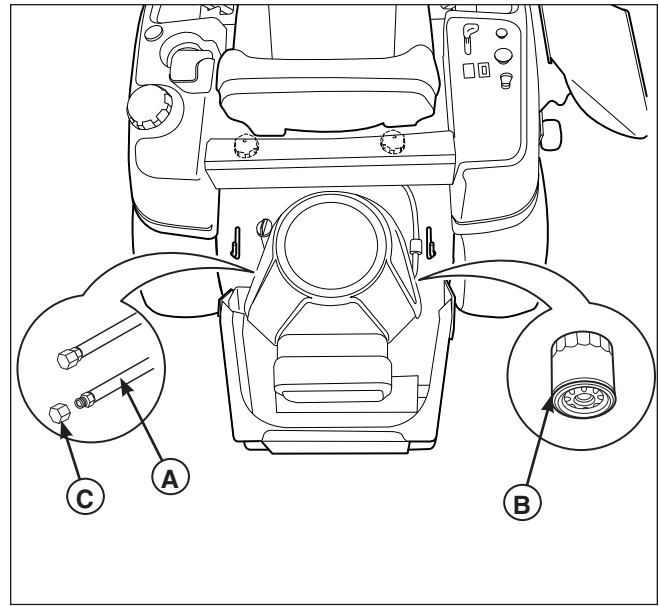

Figure 26. Change Engine Oil & Filter
2. The oil drain hose (A, Figure 26) is located on the left side of the engine. Remove the oil drain hose from its storage position and re-position the oil drain hose over the side of the engine deck and place a small pan beneath it to catch the old engine oil.
3. Using the appropriate tools, remove the cap (C) from the oil drain tube.
5. Place an absorbent shop cloth under the engine oil filter (B). Remove the oil filter and discard.